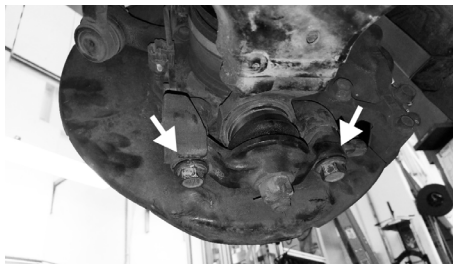

Fig. 2: Right side shown
3b. Using a 19mm socket, remove (2) bolts from each lower ball joint assembly. (Fig 2)